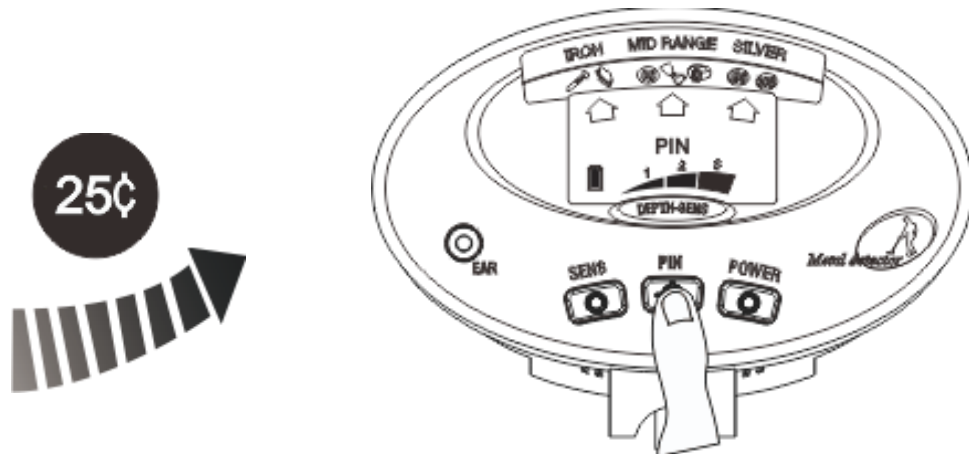

Fig.12
- b) Let the 25¢ silver coin approach the search coil slowly, when it is in the position of about 6", the strength cursor begins to appear and turns stronger, the sound turns louder. Continue to let the 25¢ silver coin approach the search coil, till the strength cursor is full-scale lighted, the sound is more louder, then the depth cursor denotes the depth dropping. (See Fig.12)